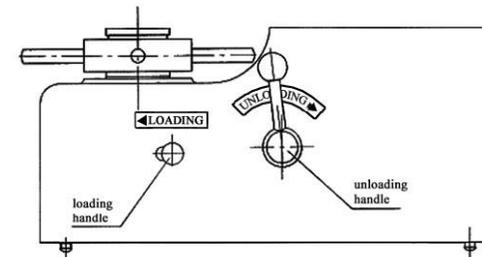
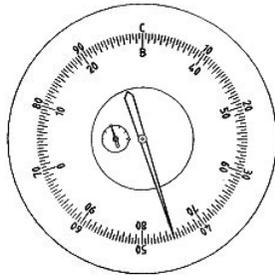

Figure 9
Figure 15
- a. Make sure that the unloading handle (20) is at the position of unloading. Otherwise, turn it to unloading position slowly (2 to 3 seconds or so) as per the unloading direction shown on the unloading label (see Fig 9).
Note: When changing the test force, the unloading handle must be at the unloading position (see Fig 9, i.e. at the limit position on the right hand). Otherwise it will cause damage to the hardness tester.
- d. Pull the loading handle leftwards to apply main test force on the indenter (see Fig 9).
2.5 After the longer pointer stops rotating obviously, remove the main test force by pushing slowly (2 to 3 seconds) the unloading handle clockwise to the right-handed limit (see Fig 9). Get the readings from corresponding scales on the indication dial gauge. For diamond indenter, read from the black digits at the outer ring. As for steel ball indenter, read from the red digits at the inner ring. The hardness value for this example shall be 45 HRC (see Fig 15). Turn the hand wheel to let the specimen down until the surface being tested is separated from the indenter. Move the specimen